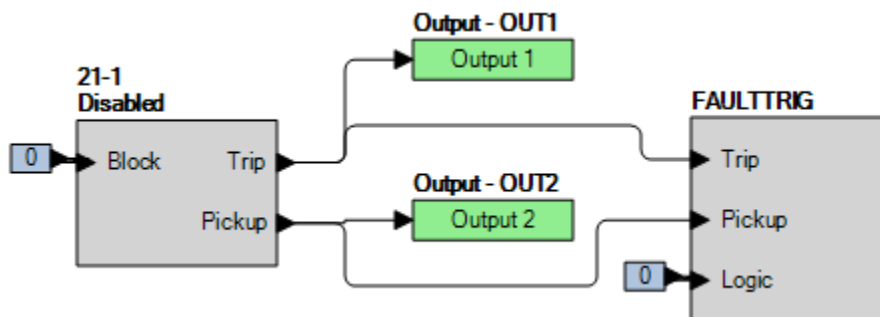

Figure 67-1. BESTlogic_{Plus} Settings
Step 2: Use BESTCOMSP_{Plus} to configure the BESTlogic_{Plus} programmable logic shown in Figure 67-1.
Step 4: Prepare to monitor the 21-1 function operation. Operation can be verified by monitoring OUT1 (see Figure 67-1).